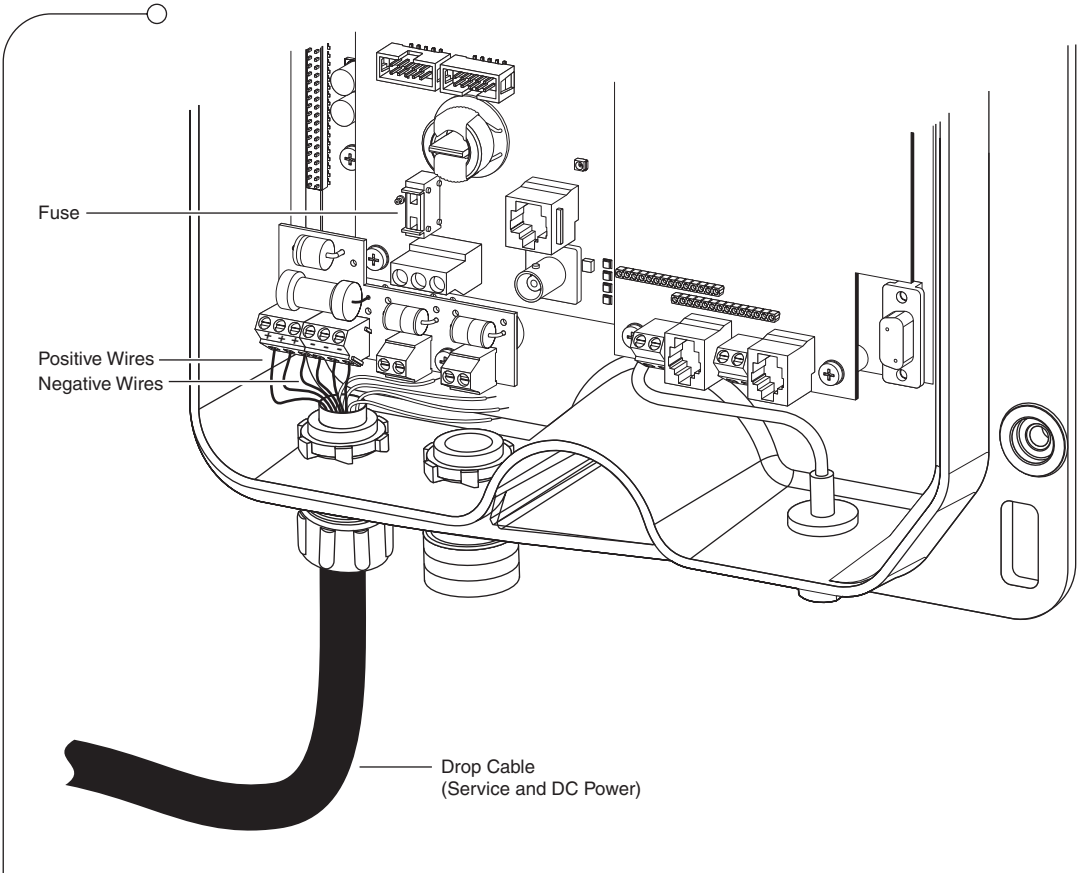

Figure 3.8 +24VDC Power Connection to the STS
4. Connect the positive and negative wires to the STS, as shown in Figure 3.8 on page 39. Ensure that correct polarity is observed when making power connections to the STS.